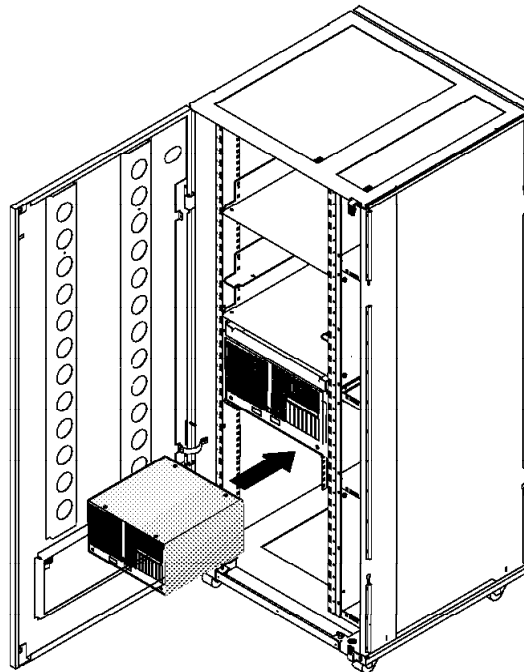

Figure 5. NNP-B installation
- ___ 4. slide the NNP-B unit in the rack from the rear side. (see Figure 5)